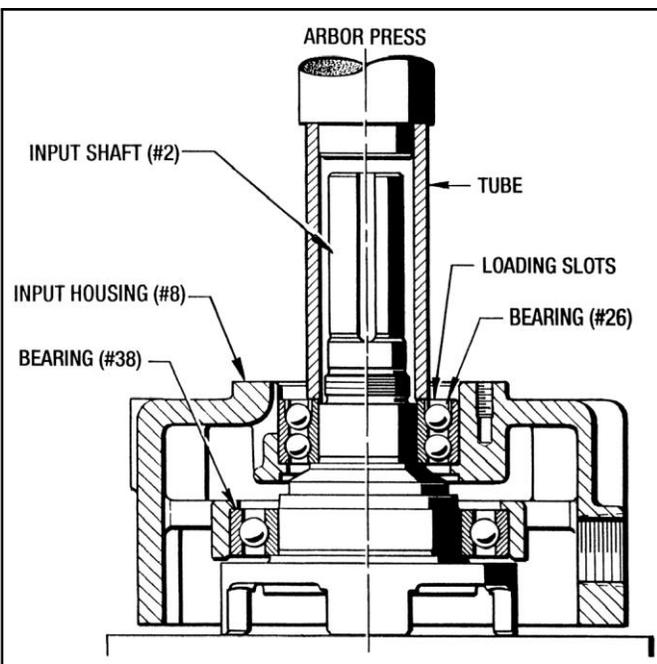

Figure 9.1 - Installing Male Input Shaft
3. Set the Input Housing into an arbor press as shown in Figure 9.1. Place the Bearing (#26) onto the Input Shaft and with an appropriate sized tube, press on the inner race of the bearing until it bottoms out. (Do not press on the bearing cage of the outer race.)
7. Place masking tape over the keyway and slide the Bearing Retainer (#7) with the Gasket (#55) over the shaft, being careful not to damage the lip of the Oil Seal (#31). Attach with (6) Screws (#63). **Torque to 9 Ft. Lbs.**